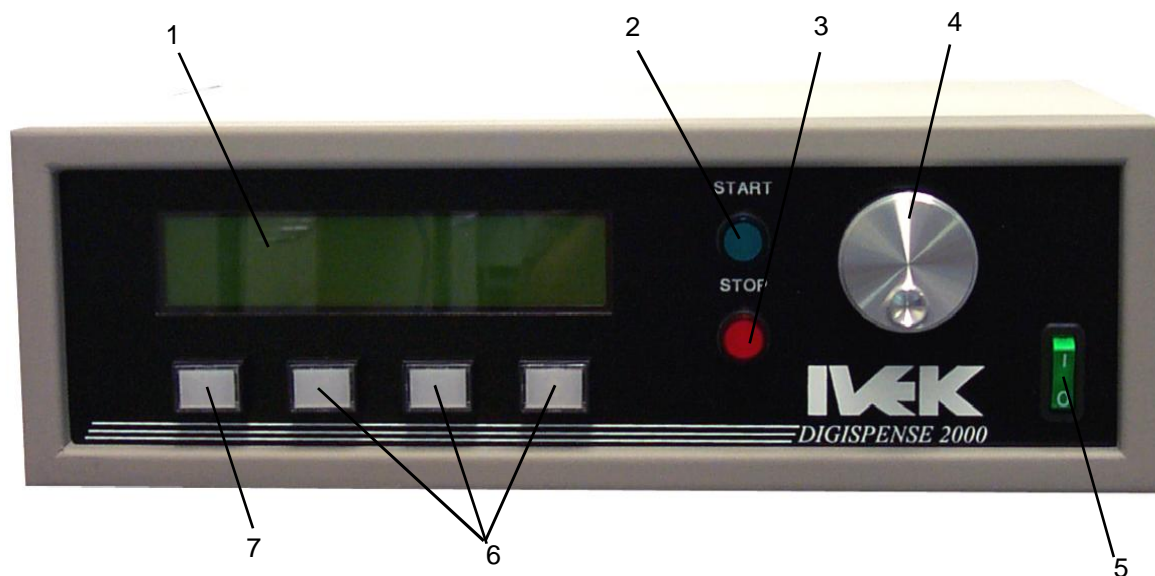

Figure 3.1 Digispense 2000 Controller Module Front Panel
3.1.1 Front Panel Controls & Indicators (Figure 3.1)
3.1.1.1 Display (Figure 3.1 Item 1)
3.1.1.2 START Push-button (Figure 3.1 Item 2)
3.1.1.3 STOP Push-button (Figure 3.1 Item 3)
3.1.1.4 Dial (Figure 3.1 Item 4)
3.1.1.5 1/0 Switch (Figure 3.1 Item 5)
3.1.1.6 Function Push-buttons (Figure 3.1 Item 6)
3.1.1.7 Mode Push-button (Figure 3.1 Item 7)